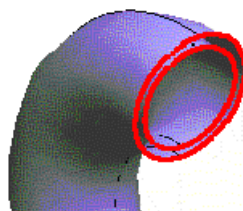

Figure 21. Opening at the end of the pipe
- 5 . Choose **Geometry->Create->NURBS Surface->By contour** and select the four lines that define the opening of the pipe (Figure 21). Press **ESC** twice.